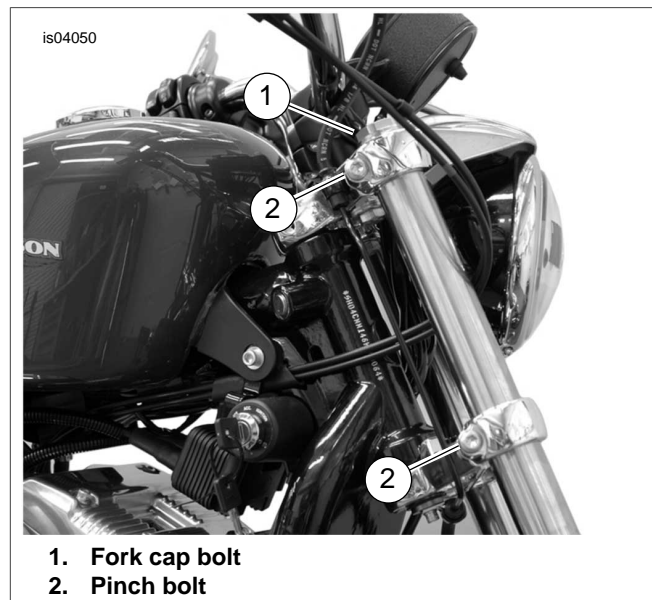

Figure 1. Loosen Pinch Bolt
4. See Figure 1. While holding the fork slider to prevent the fork from dropping, loosen pinch screws (2).
1. See Figure 1. Insert fork slider through the front lower and upper brackets. Position slider tubes so that the top of